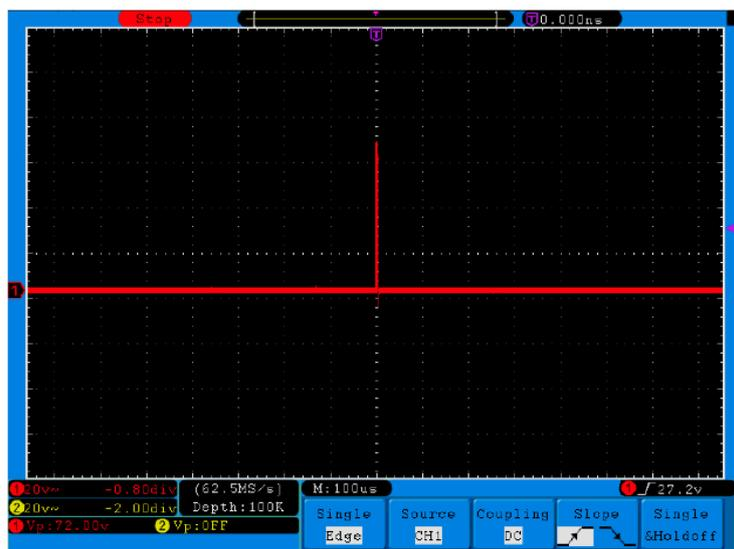

Fig.6-3 Capturing a Single Signal
- (5) Press the **F2** button to choose **Peak detect**.
- (6) Press the **Trigger Menu** button to display the Trigger menu.
- (7) Press the **H1** button to display the Trigger Type menu.
- (8) Press the **F1** to choose **Single** as the type.
- (9) Turn the **M** knob to choose **Edge** as the mode.
- (10) Press the **H2** button to display the **Source** menu.
- (11) Press the **F1** button to choose **CH1** as the source.
- (12) Press the **H3** button to display the Coupling menu; press the **F2** button to choose **DC** as the Coupling.
- (13) Press the **H4** button to choose  (rising) as the Slope.
- (14) Rotate the **TRIG LEVEL** knob and adjust the trigger level to the roughly 50% of the signal to be measured.
- (15) Check the Trigger State Indicator on the top of the screen, if it is not Ready, push down the **Run/Stop** button and start acquiring, wait for trigger to happen. If a signal reaches to the set trigger level, one sampling will be made and then displayed in the screen. By using this approach, a random pulse can be captured easily. For instance, if we want to find a burst burr of high amplitude, set the trigger level to a slightly higher value of the average signal level, press the **Run/Stop** button and wait a trigger. Once there is a burr occurring, the instrument will trigger automatically and record the waveform during the period around the trigger time. By turning the **HORIZONTAL POSITION** knob in the horizontal control area in the panel, you can change the horizontal triggering position to obtain the negative delay, making an easy observation of the waveform before the burr occurs (see **Fig.6-3**).